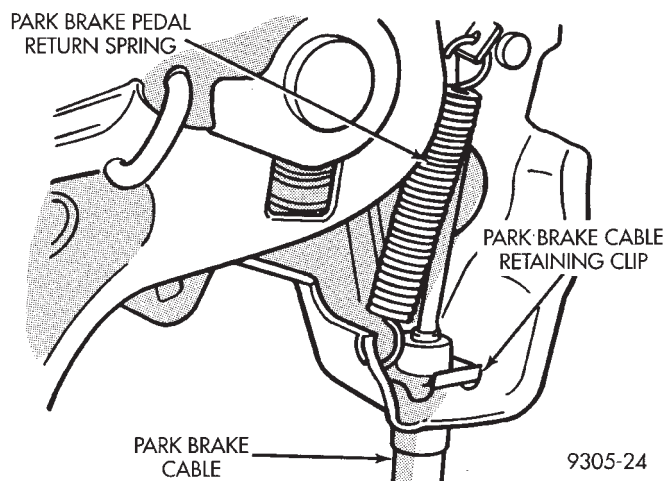

Fig. 8 Park Brake Cable Installed In Mechanism
(3) Install park brake cable to park brake pedal mechanism retaining clip (Fig. 8). Be sure retaining clip is fully installed on park brake cable. Install park brake pedal return spring (Fig. 8) before installing park brake pedal assembly back in vehicle.